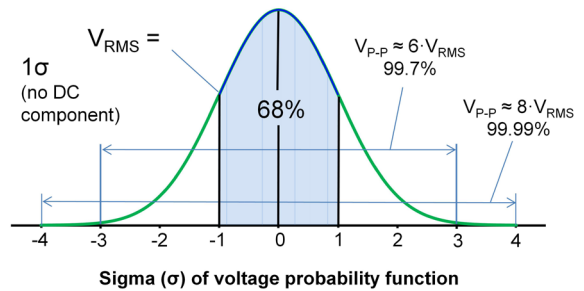

Figure 58: Gaussian noise spikes outside the  $\pm 3$ -times range are rare.
Resistor noise is also Gaussian, a description of its amplitude distribution, a probability density function. It is Gaussian because it was created by the summation of a gazillion little random events. The central limit theorem explains how this noise becomes Gaussian. The root-mean-square (RMS) voltage of alternating current (AC) noise is equal to  $\pm 1 \sigma$  of the amplitude distribution (Figure 58). For 1-V RMS noise, there is a 68 percent ( $\pm 1\text{-}\sigma$ ) probability that the instantaneous voltage will be within a  $\pm 1\text{-}V$  range. A common misconception is to relate or equate white and Gaussian, but they are unrelated. Filtered resistor noise, for example, is not white but remains Gaussian. Binary noise is definitely not Gaussian, but it can be white. Resistor noise is white **and** Gaussian.